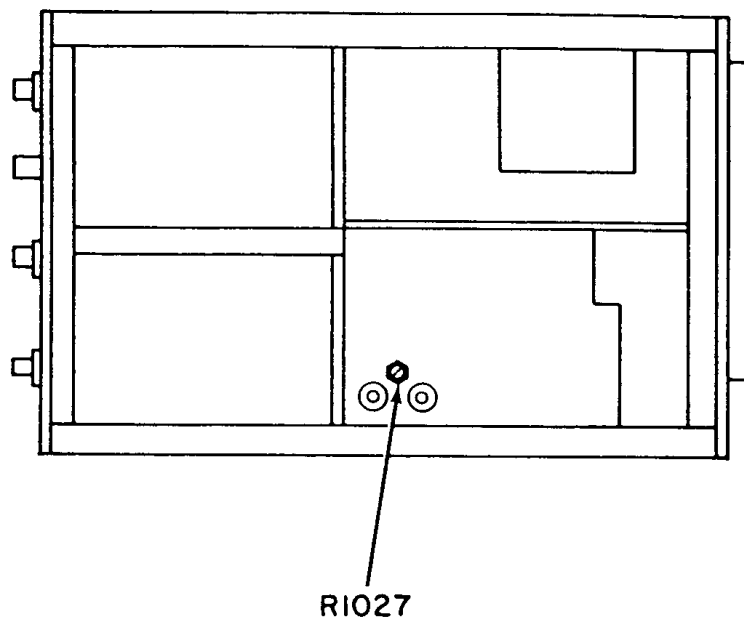

Figure 1. Oscilloscope - bottom view (545A), left view (RM45A).
(1) Adjust voltage standard output for 35.35 volts rms.
(2) Adjust R1027 (fig. 1) until TI crt indicates 4 divisions of vertical deflection (R).